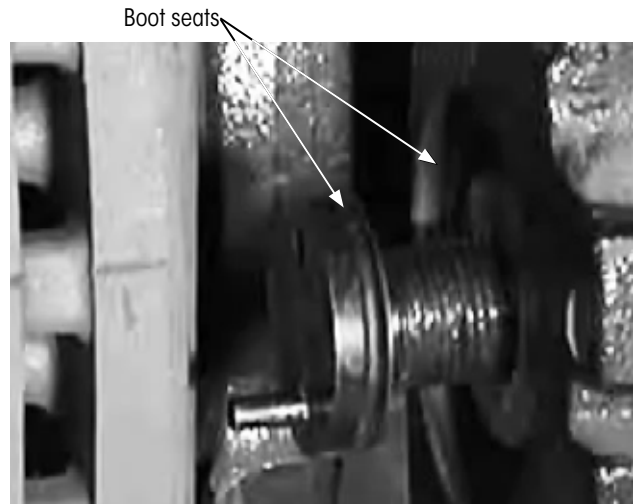
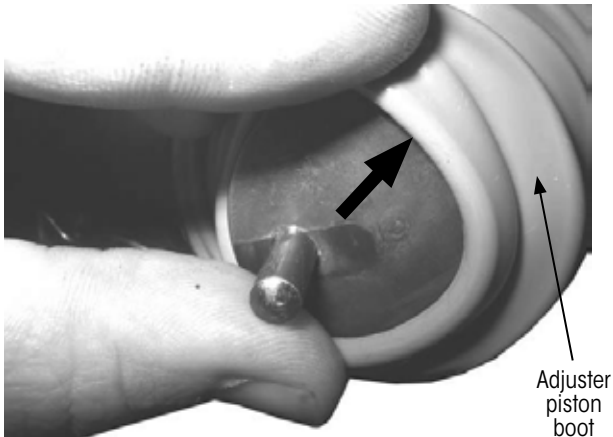

Figure 79: Clean adjuster piston boot seats
Figure 81: Seating adjuster piston boot edge
NOTICE: Do not use any sharp edged tools or metal brushes for cleaning. Ensure no dirt or moisture enters the brake when cleaning. The boot seats must be clean and free from grease (Figure 79).
12. **Clean** the adjuster piston boot seats (Figure 79).
13. **Grease** the thread of the adjuster piston (Figure 79).
14. **Manually turn** the adjuster piston (Figure 79) clockwise back into the brake caliper again. The adjuster piston pin must be in the same position as it was before it was screwed out, refer to Step 7.
3. **Lightly grease** the inner exposed edge of the adjuster piston boot (Figure 81).
4. **Insert** the edge of the adjuster piston boot into the adjuster piston seat (Figure 79 on page 32 and Figure 81).